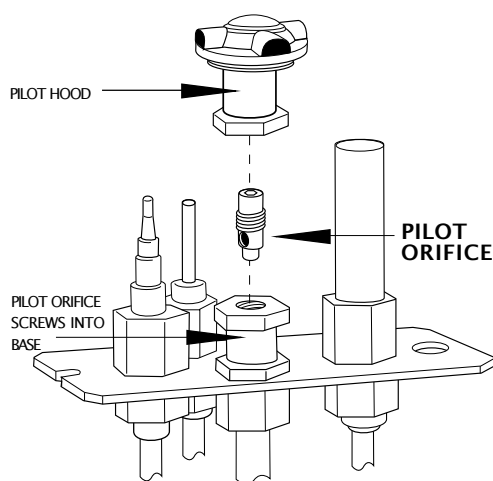

Figure 3.
9. Change the pilot orifice. FROM WITHIN THE FIREBOX, PULL THE PILOT HOOD OFF THE PILOT ASSEMBLY. Using a 4mm allen wrench thread out the pilot orifice (counter clockwise). Replace with the appropriate orifice: See Figure 3.